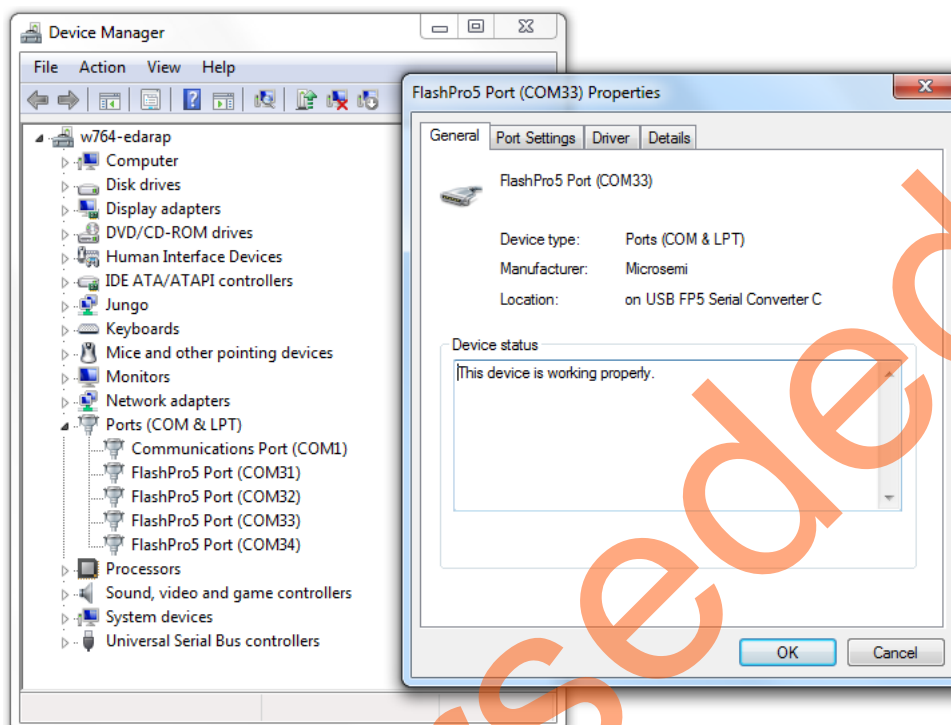

Figure 17 • Device Manager - FlashPro5 Properties
- Select one of the four COM ports with **Location** as on **USB FP5 Serial Converter C**. Figure 17 shows the **Device Manager** window and its properties that display the **USB Serial Port** details. The COM port number is required to run the demo design.